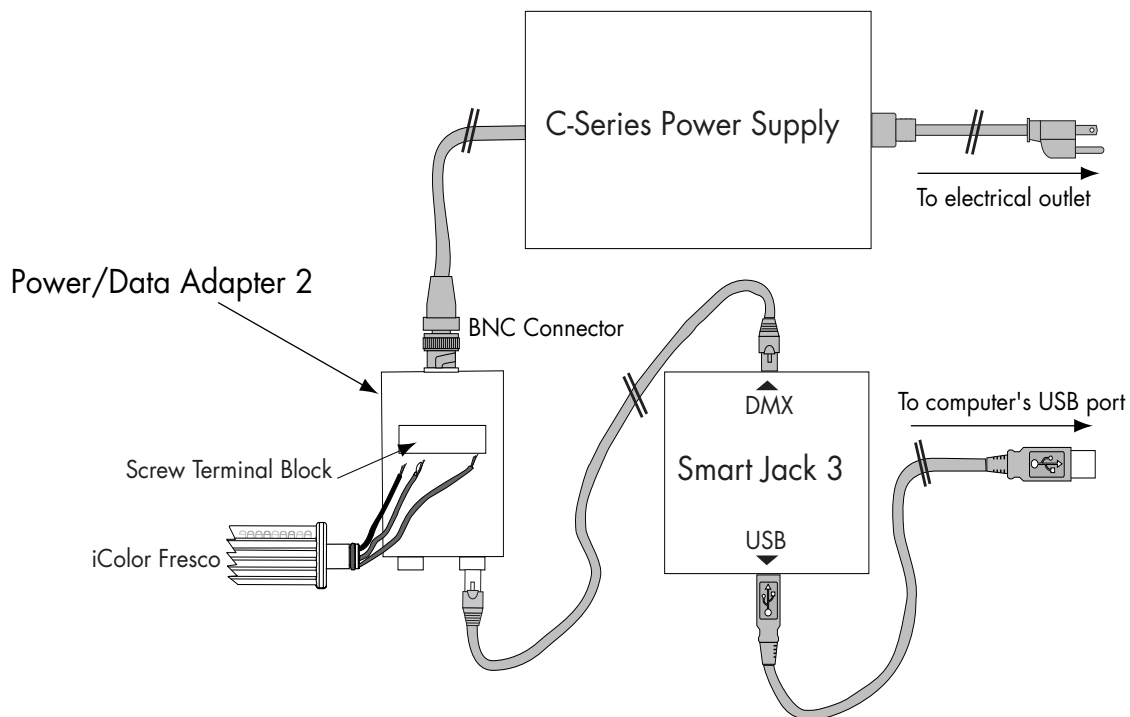

Figure 2. Connecting iColor Fresco to your computer with Smart Jack 3, the Power/Data Adapter 2, and the C-Series Power Supply.
1. Plug one end of the RJ45 cable into the DMX jack on Smart Jack 3 and the other end into the Power/Data Adapter 2. (See Figure 2.)
1. Connect one end of the USB cable to the Smart Jack 3 USB port. (See Figure 2.)